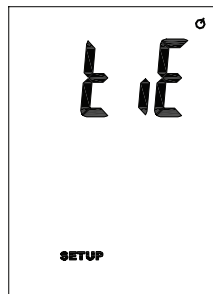

Fig. 3
2. Use the **▲/T1-T2/T3-T4** and **Hold/▼** buttons to scroll to the **time** setting option screen (Fig. 3).